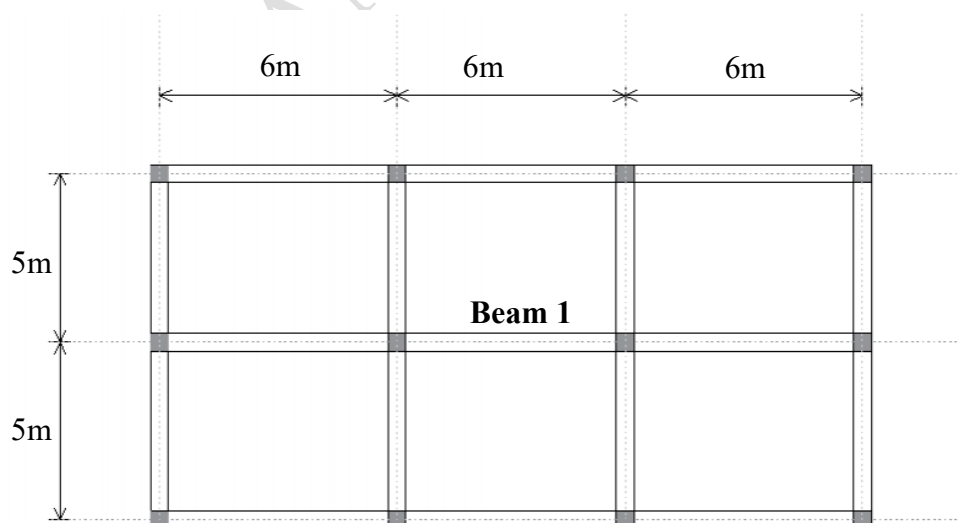

Figure Q3
A span in a continuous beam is 6m long, placed at 5m spacing (Figure Q3).
Beam 1 in Figure Q3 has an ultimate bending moment of 800kNm at its supports.
- Calculate the mass of carbon emissions for the slab and beams shown in Figure Q3.